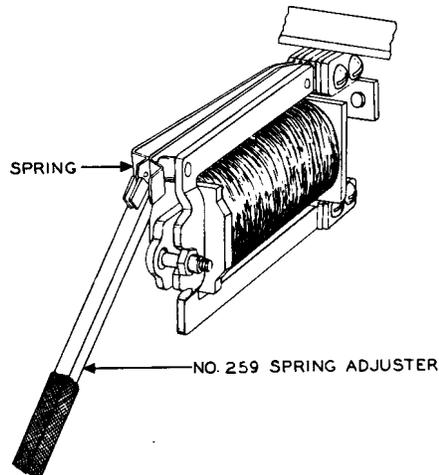

Fig. 15 - Method of Adjusting for Spring Alignment
(1) If the contacts do not line up properly, or if the tang does not overlap the spoolhead sufficiently, or the stud rubs on the spring, attempt to correct the trouble by applying pressure to the end of the spring using the No. 259 spring adjuster as shown in Fig. 15 exercising care not to distort or otherwise damage the spring. If the spring cannot be shifted, remove the relay from the mounting plate and loosen the spring assembly mounting screws with the 3-inch cabinet screwdriver sufficiently to shift the springs so as to correct the fault. Tighten the spring assembly mounting screws securely if loosened. Before mounting the relay make the adjustments outlined in procedure 3.03, if necessary. Tighten the mounting screws securely when mounting the relay.